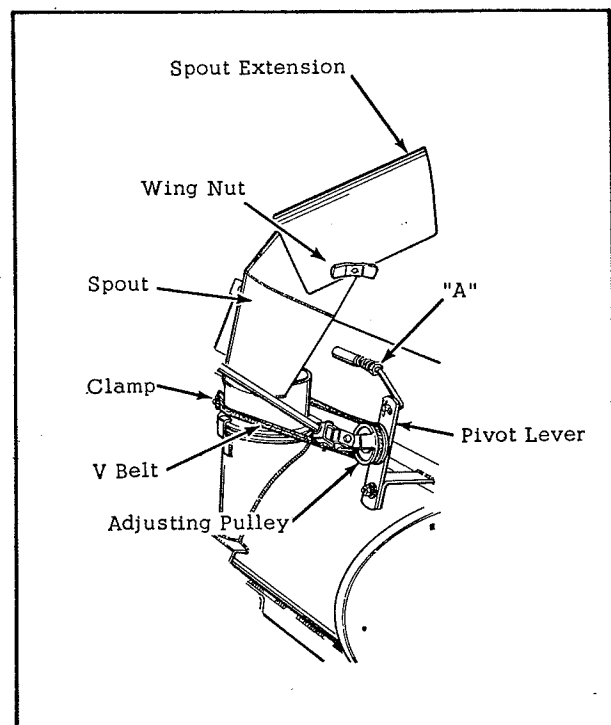

Fig. 4
4. Apply a coating of light oil to the neck of the discharge spout mounting colar and install the spout in place on the rotor housing as shown in figure 4. The application of oil is necessary to prevent rust and to allow the spout to rotate freely. Clamp "V" belt around the spout as shown in figure 4, and loop the belt around the adjusting pulley. To adjust tension of the "V" belt, turn the hex nut at point "A" in Figure 4. Avoid excessive tension.